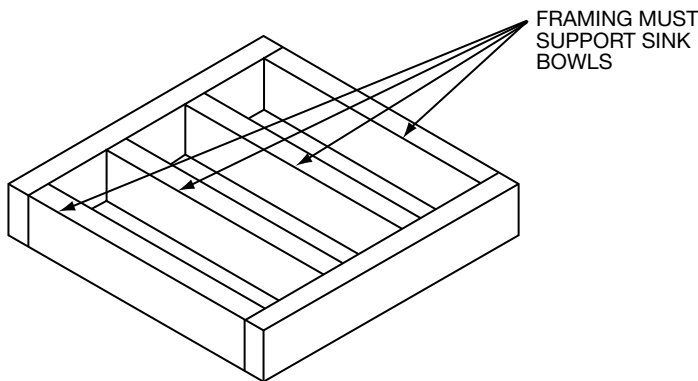

FIGURE 1
- It is **required** that a support frame be constructed inside the cabinet for adequate support of the sink as shown in Figure 1.